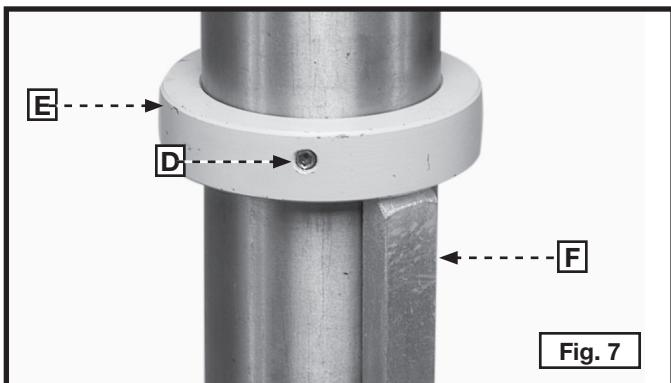

Fig. 7
- Install the ring (E) Fig. 7 that was removed in **STEP 1**.